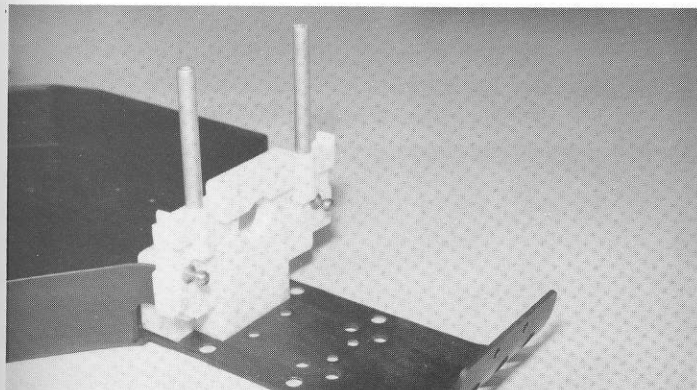

**Fig. 80**
□ **Figs. 80 & 81** Take two #6280 8-32 x 1/2" aluminum FHMScrews and two #6925 4-40 x 1/2" SHCScrews from bag #6-4. We are going to insert the rear bulkhead between the two chassis side tabs (with the ball ends to the back of the chassis) as shown in fig. 80. Install the two #6925 4-40 screws into the bulkhead through the sides of the chassis, but do not tighten them down yet. Now thread the two #6280 8-32 screws through the bottom of the chassis into the bulkhead. (See fig. 81). Do not tighten them down yet; we will tighten these four screws later in the instructions.